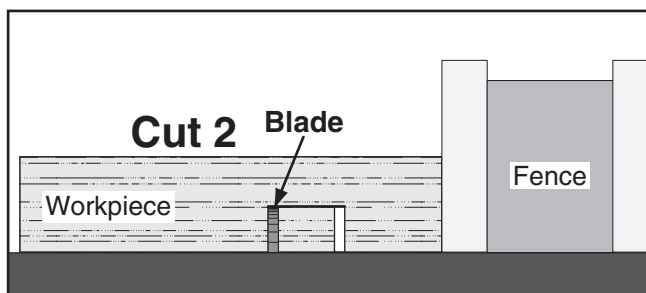

Figure 48. Second cut for a single-blade dado.
- Repeat cutting operation on other side of dado, as shown in **Figure 48**.